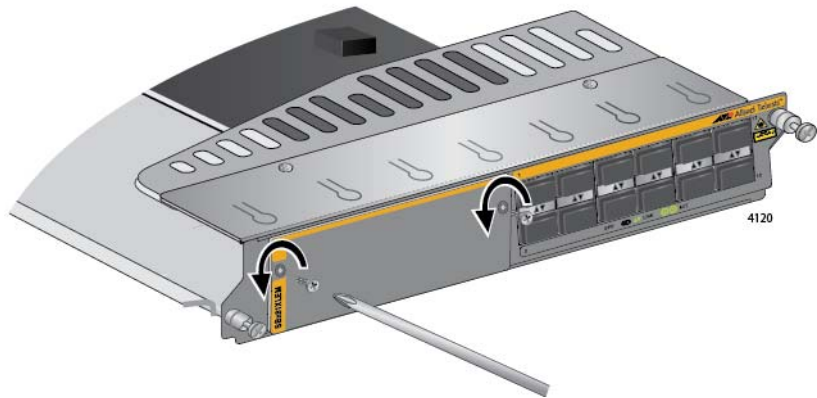

Figure 88. Removing the Screws on the Blank Slot Cover on the AT-SBx81XLEM Line Card
4. With a #2 Phillips-head screwdriver, remove the two screws that secure the blank slot cover to the card. Refer to Figure 88.